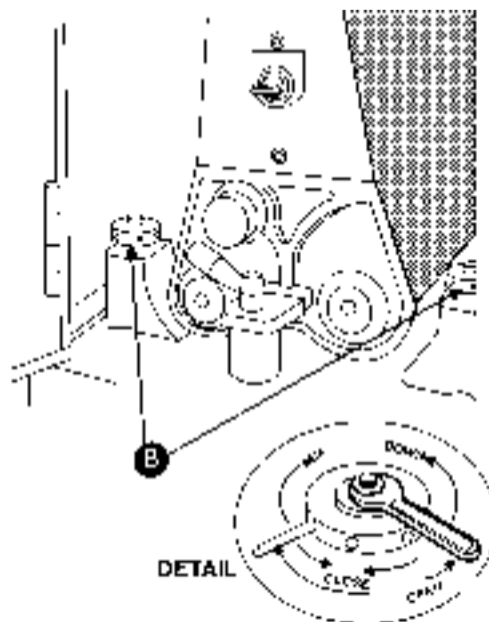

FIGURE 8
4. Loosen the fix nut (A) then turn the adjustment knob (B) as shown in Figure 8.